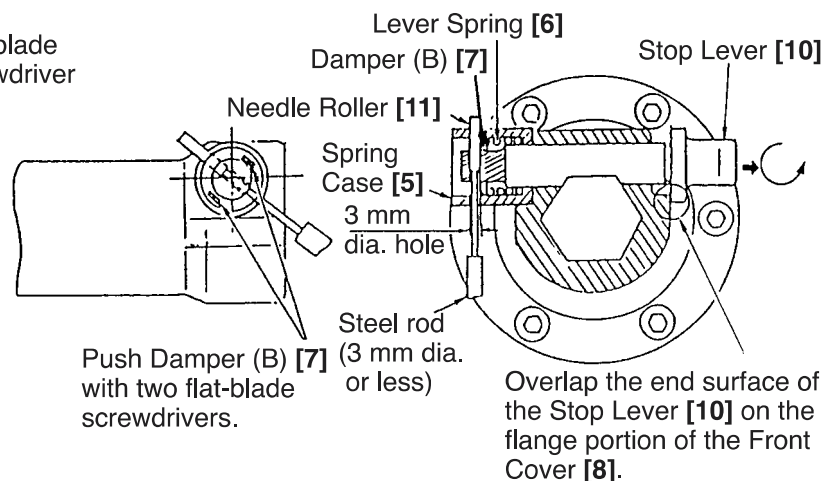

Fig. 4
Disassembly procedures are illustrated in Fig. 4. Pull the Stop Lever [10] outward in the direction indicated by the arrow, and turn it slightly so that its end surface comes to rest on the flange portion of the Front Cover [8]. Next, turn the Spring Case [5] so that the holes of the Spring Case [5] are aligned with the Needle Roller [11]. Then, push in Damper (B) [7] with flat-blade screwdrivers to compress the Lever Spring [6]. Finally, while keeping the lever spring compressed, fit a 3 mm dia. or less steel rod into the hole of the Spring Case [5], and push out the Needle Roller [11]. The Stop Lever [10], Damper (B) [7], and the Lever Spring [6] can then be taken out.